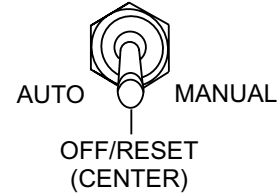

**Figure 49. Auto Off/Reset Manual Switch (Off/Reset)**
3. Place the **Auto Off/Reset Manual Switch** (Figure 49) in the **OFF/RESET** position.